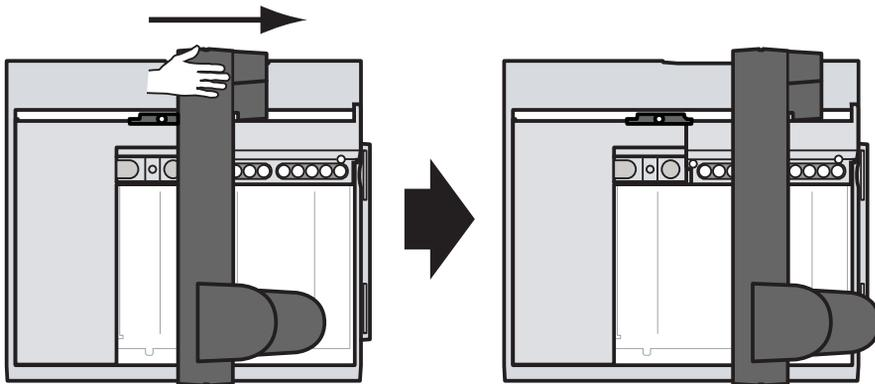

Figure 7 Sliding the gantry towards the sample tray mounting bracket
- 4 Place your hand on the gantry as shown in Figure 7 and gently push the gantry towards the sample tray mounting bracket until the remaining shipping clamp is accessible.